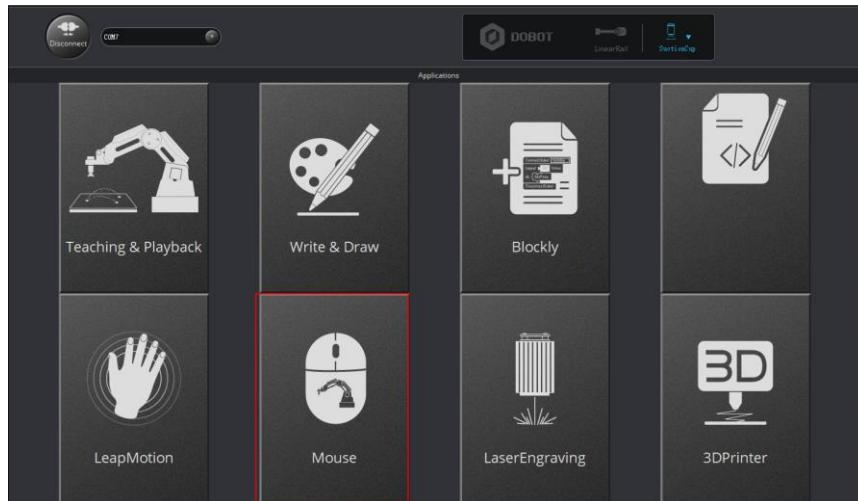

Figure 5.113 Click Mouse
**Step 1** Click **Mouse**, as shown in Figure 5.113.